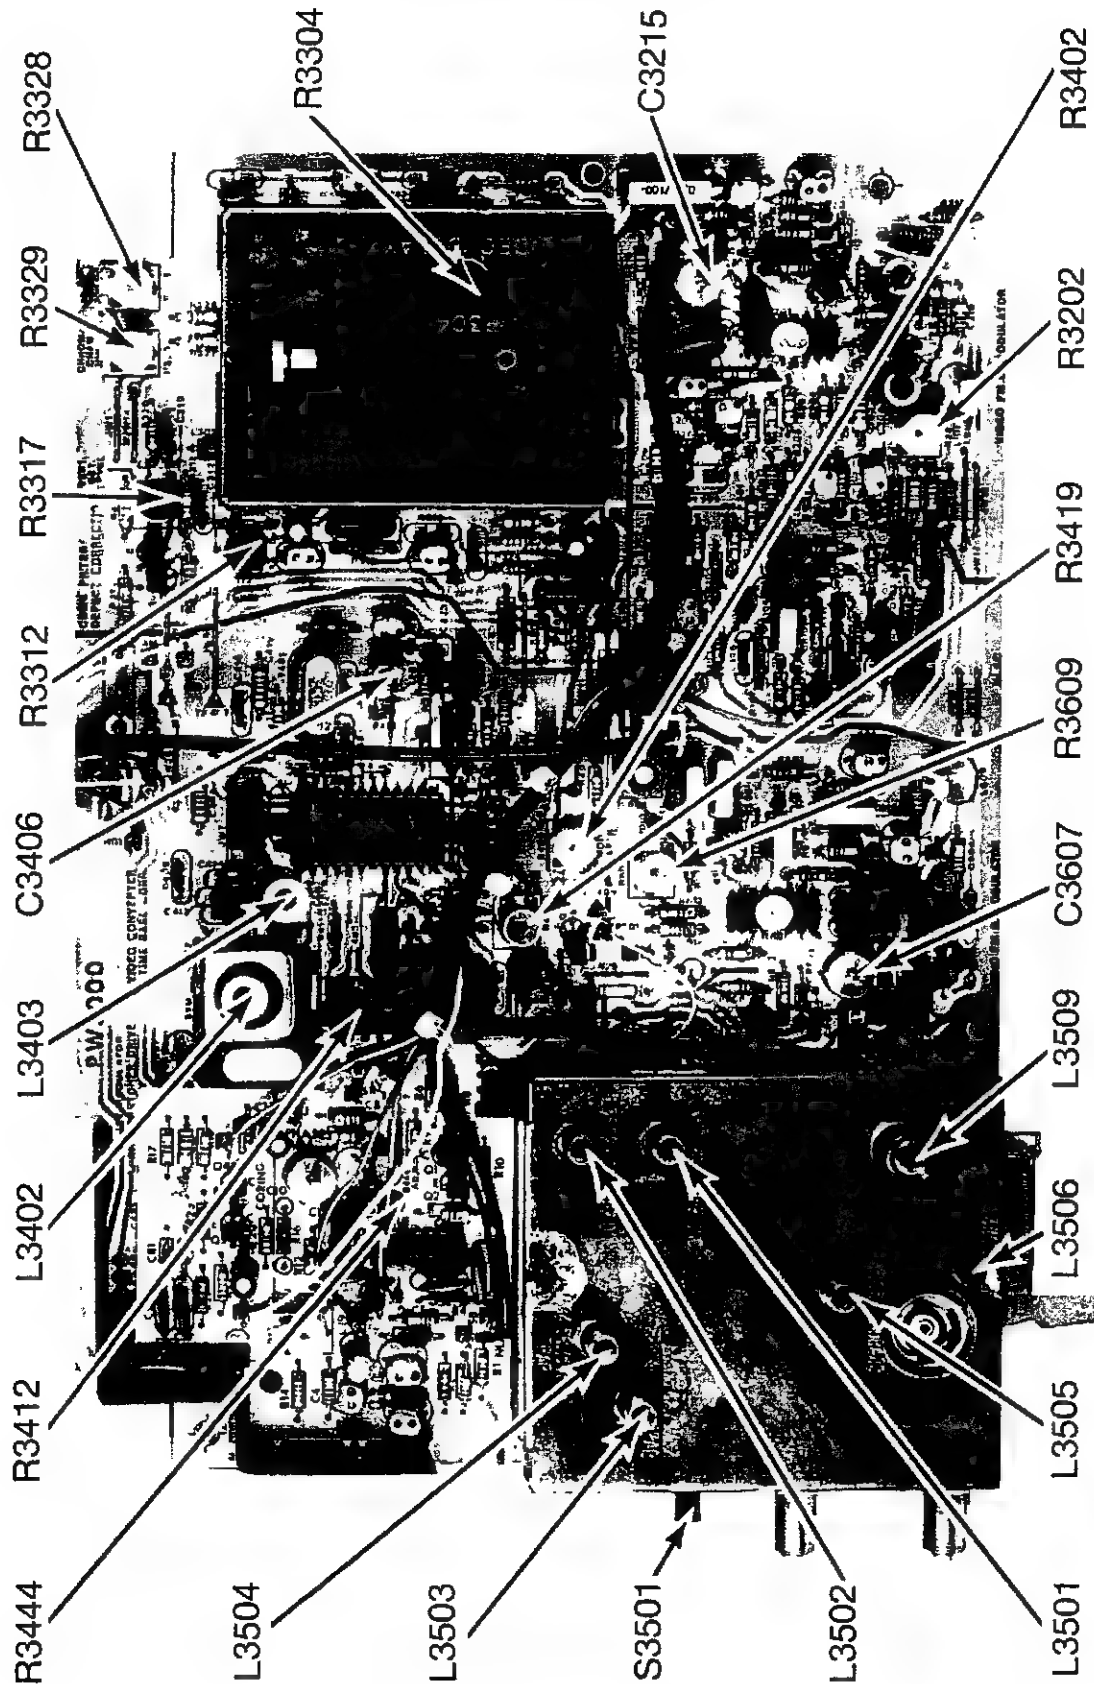

Fig. 4-9. — PW 3000 Circuit Board Electrical Adjustments
2. Connect oscilloscope to TP 3401 (Figs. 4-9 & 5-2).
2. Connect oscilloscope to TP 3302 (Figs. 4-9 & 5-2).
2. Connect oscilloscope to TP 3303 (Figs. 4-9 & 5-2).
2. Connect oscilloscope to TP 3301 (Figs. 4-9 & 5-2).
2. Connect oscilloscope to TP 3409 (Figs. 4-9 & 5-2).
2. Connect Disc player to TV set. Locate defect (Line No. 130) by rotating R3304 to one end of rotation (Figs. 4-9 & 5-2).
3. Connect a 7500 ohm resistor between TP 3405 and TP 3411 (Figs. 4-9 & 5-2).
1. With power applied to player, place Channel Switch, S3501, in Channel 3 position (Figs. 4-9 & 5-2). Connect player to TV or 75 ohm load.
9. Adjust L3504 for null (Fig. 4-9).
14. Set marker generator to 65.75 MHz and adjust L3505 for peak output (maximum deflection) (Fig. 4-9).
3. Adjust L3509 (Fig. 4-9) for 4.5 MHz  $\pm 1$  kHz.
3. Adjust C3406 (Fig. 4-9) for 3.579545  $\pm 10$ Hz.
2. With player in load mode adjust C3406 (Fig. 4-9) for 3.579485 MHz.
3. Adjust R3402 (Fig. 4-9) Clockwise till a buzz is heard in TV audio, then turn R3402 counterclockwise to just eliminate the buzz.
3. Adjust R3609 (Fig. 4-9) for 1.2V p-p output.